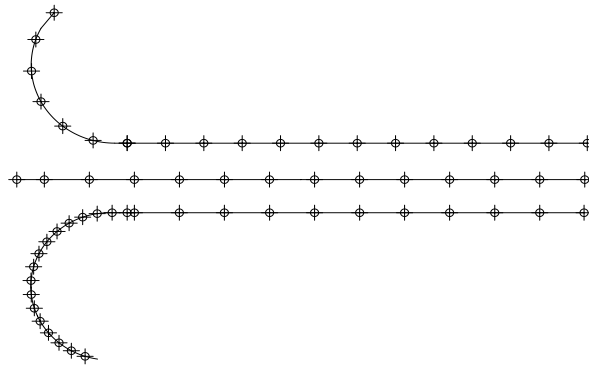

Figure 2-58 Points created along the arc object below the alignment
23. Repeat steps 21 and 22 till you are prompted to select an arc again. Thus, Civil 3D creates the point first by measuring the arc object by identifying the start and end stations of the arc and then divides the arc at specified intervals. Points are created at the end of each interval including the start and end stations of the arc, refer to Figure 2-58.